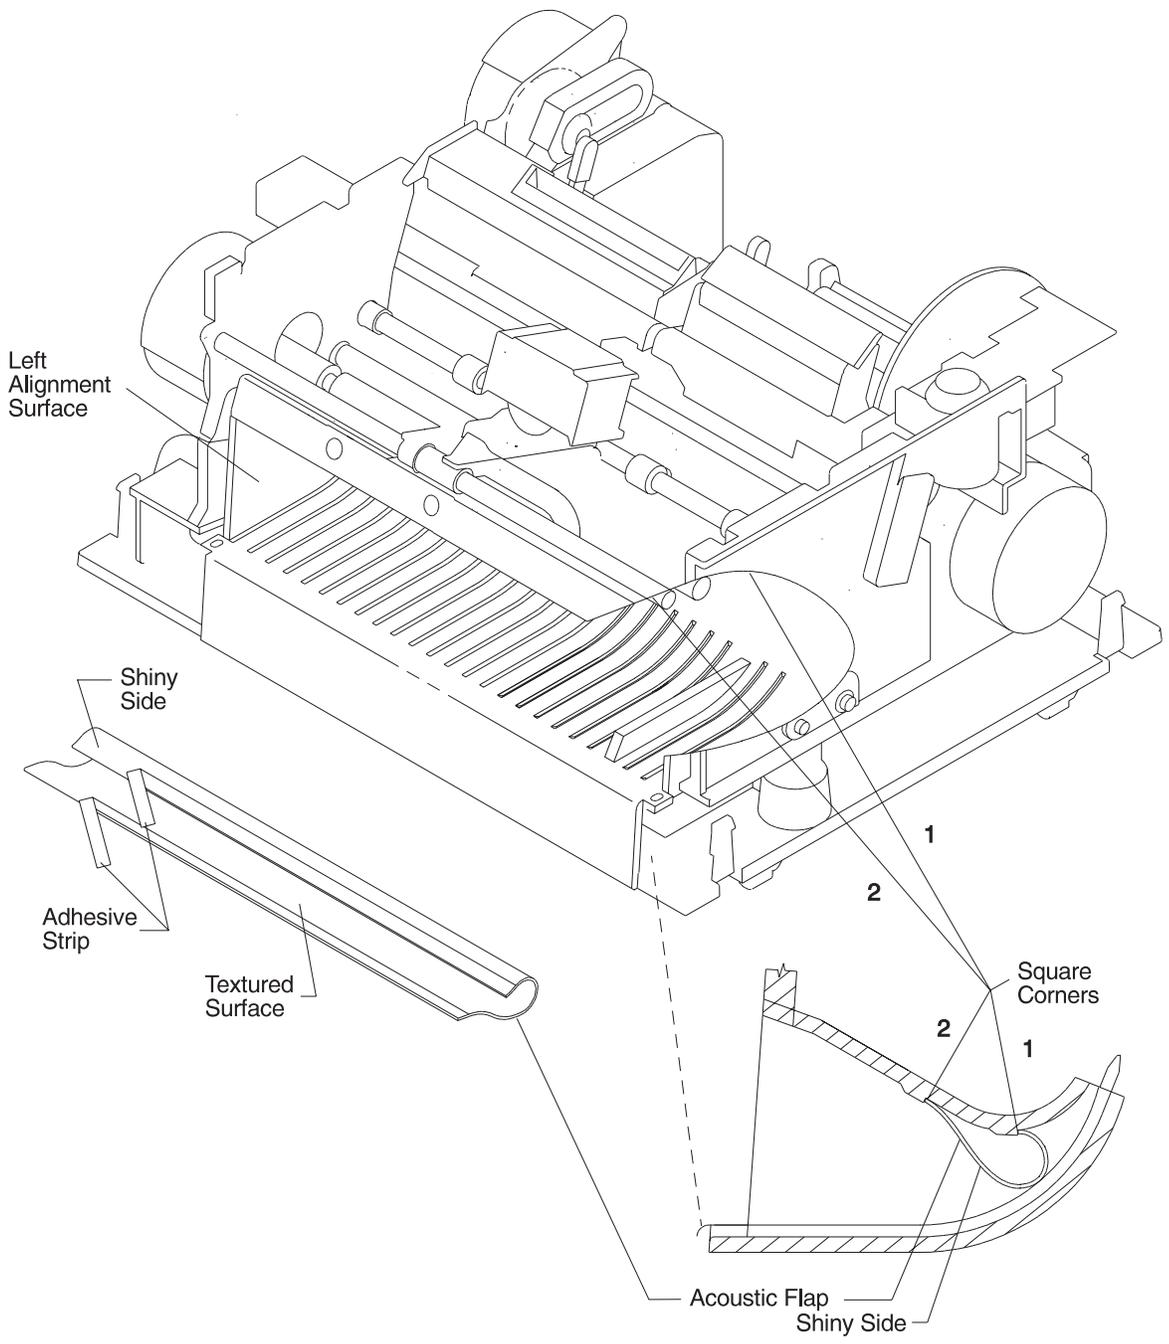

Figure 6-48. Acoustic Flap
- See Figure 6-48 on page 6-76.
- 1 Lift up 25.4mm (1 inch) of both adhesive strips on one end of the flap. Fold both adhesive strips outward. Later, you will use needlenose pliers to remove the remainder of the strip, after the flap is correctly positioned. See Figure 6-48 on page 6-76.
- 2 Fold the flap in a U-shape with the shiny side out so that both adhesive edges come in contact with the cover. See Figure 6-48 on page 6-76.
- 4 Place the flap against the square corner (1) of the inner locating rib on the cover. Align the edge of the flap along the rib.
- 6 Place the shiny edge of the flap on the square corner (2) of the outer locating rib. Align the edge of the flap along the rib.